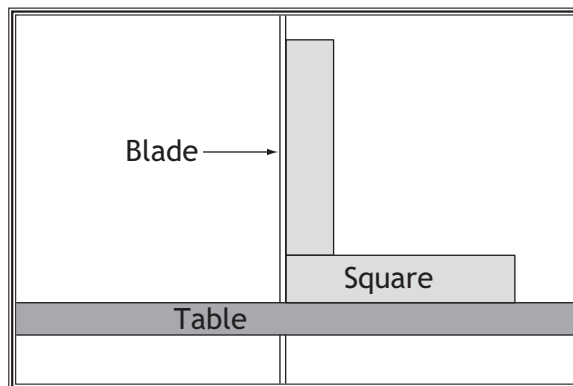

Figure 21. Squaring table to blade.
4. Raise the guide post and place a machinist's square on the table next to the side of the blade as illustrated in **Figure 21**. Adjust the table square with the blade using the table tilt handwheel, then secure with the table tilt lock lever.